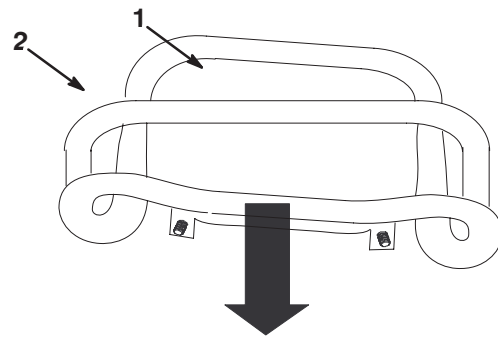

Figure 25
3. Pull straight back on the traction control so the front of the control contacts the reference bar (Fig. 25).